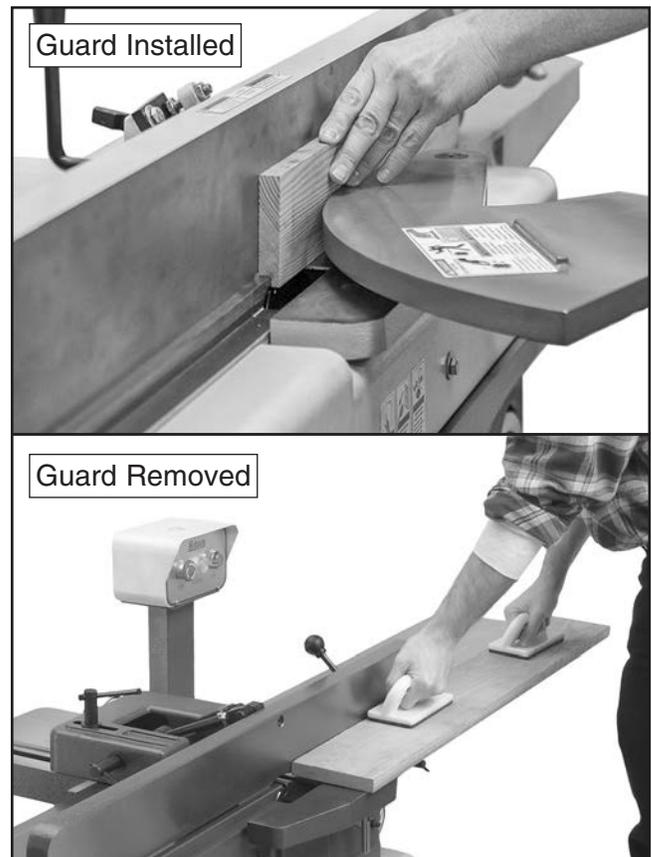

Figure 36. Examples of typical rabbet cutting operations.
3. Remove cutterhead guard if necessary to perform operation (see **Figure 36**).